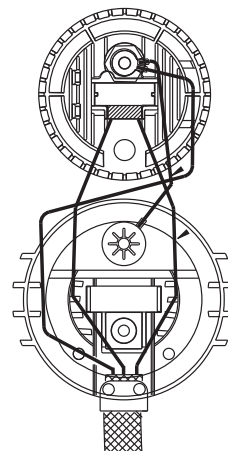

Figure 8
Step 22: Lay the leads in the bottom half of the cable clamp (located in the housing socket casting [1]), making sure that the fiberglass sleeving extends slightly past the screw holes in the housing socket casting. Install new sleeving if necessary. Then, route the wires as shown in Figure 8.